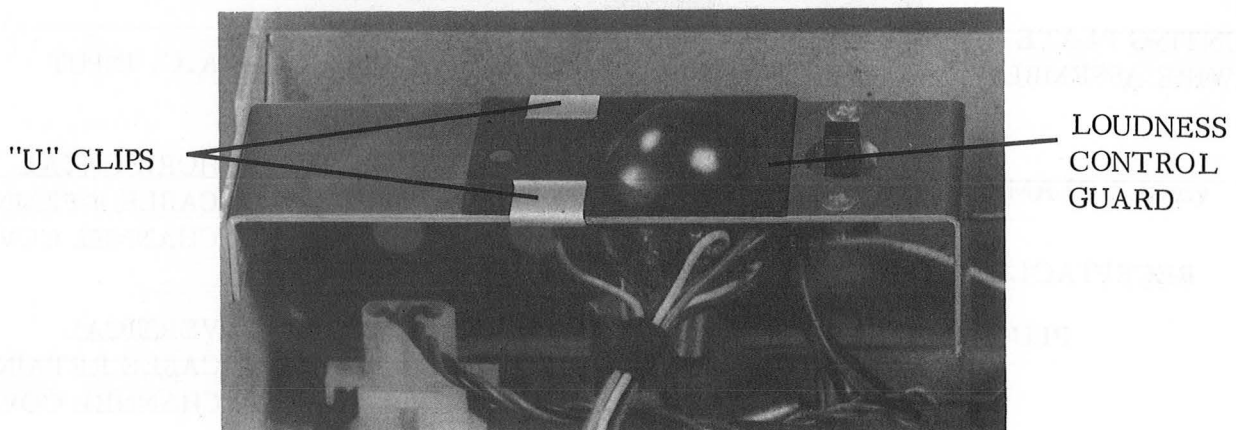

Figure 3.
9. Position LOUDNESS CONTROL GUARD, Part No. 138976, as shown in Figure 3, and secure to Amplifier with two "U" CLIPS, Part No. 76810-1, as shown in Figure 3.